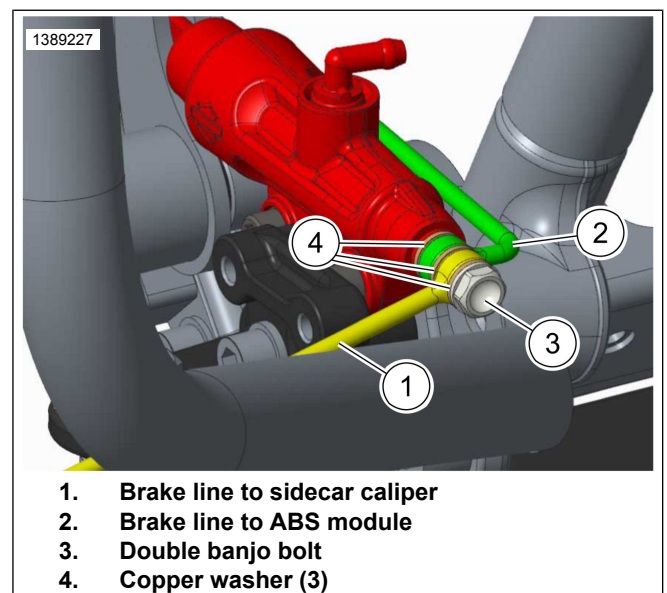

Figure 2-50. Brake Line To Master cylinder
1. See Figure 2-50. Loosely secure hard end of brake line to sidecar caliper (1) and brake line to ABS module (2) using double banjo bolt (3) with copper washer (4) either side and between lines three in total.